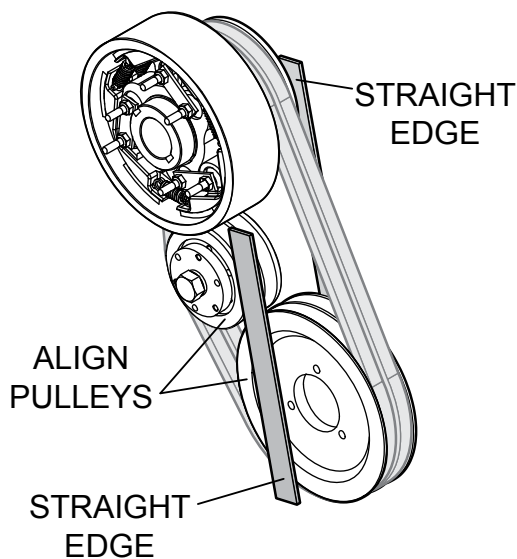

Figure 19. Pulley Alignment
- Align pulleys with a straight edge. See Figure 19.